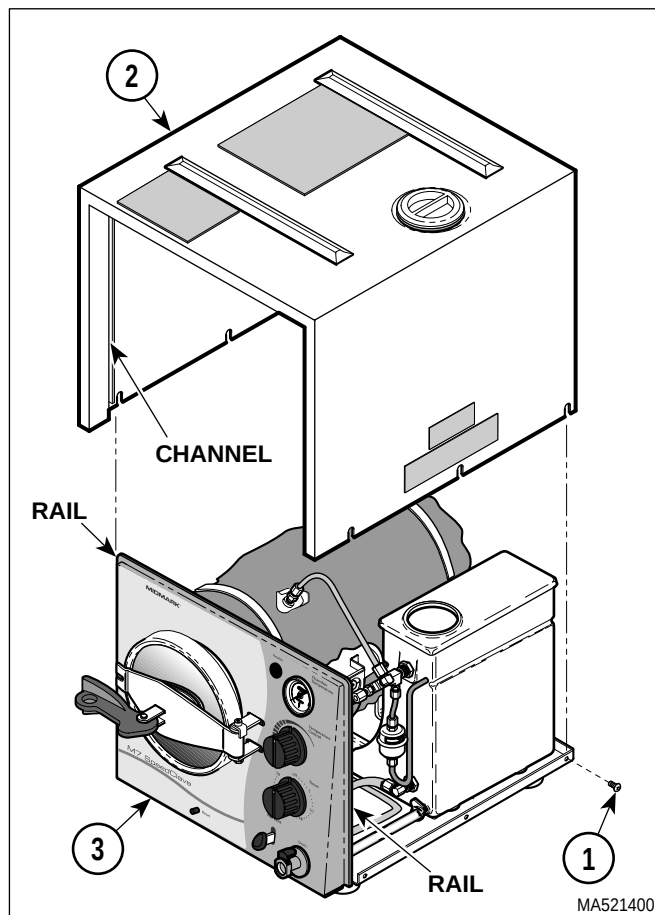

Figure 4-1. Cover Assembly Removal Installation
- (1) Disconnect power cord from wall outlet.
- (2) Loosen six screws (1, Figure 4-1), three on each side, and remove cover assembly (2) from base assembly (3).